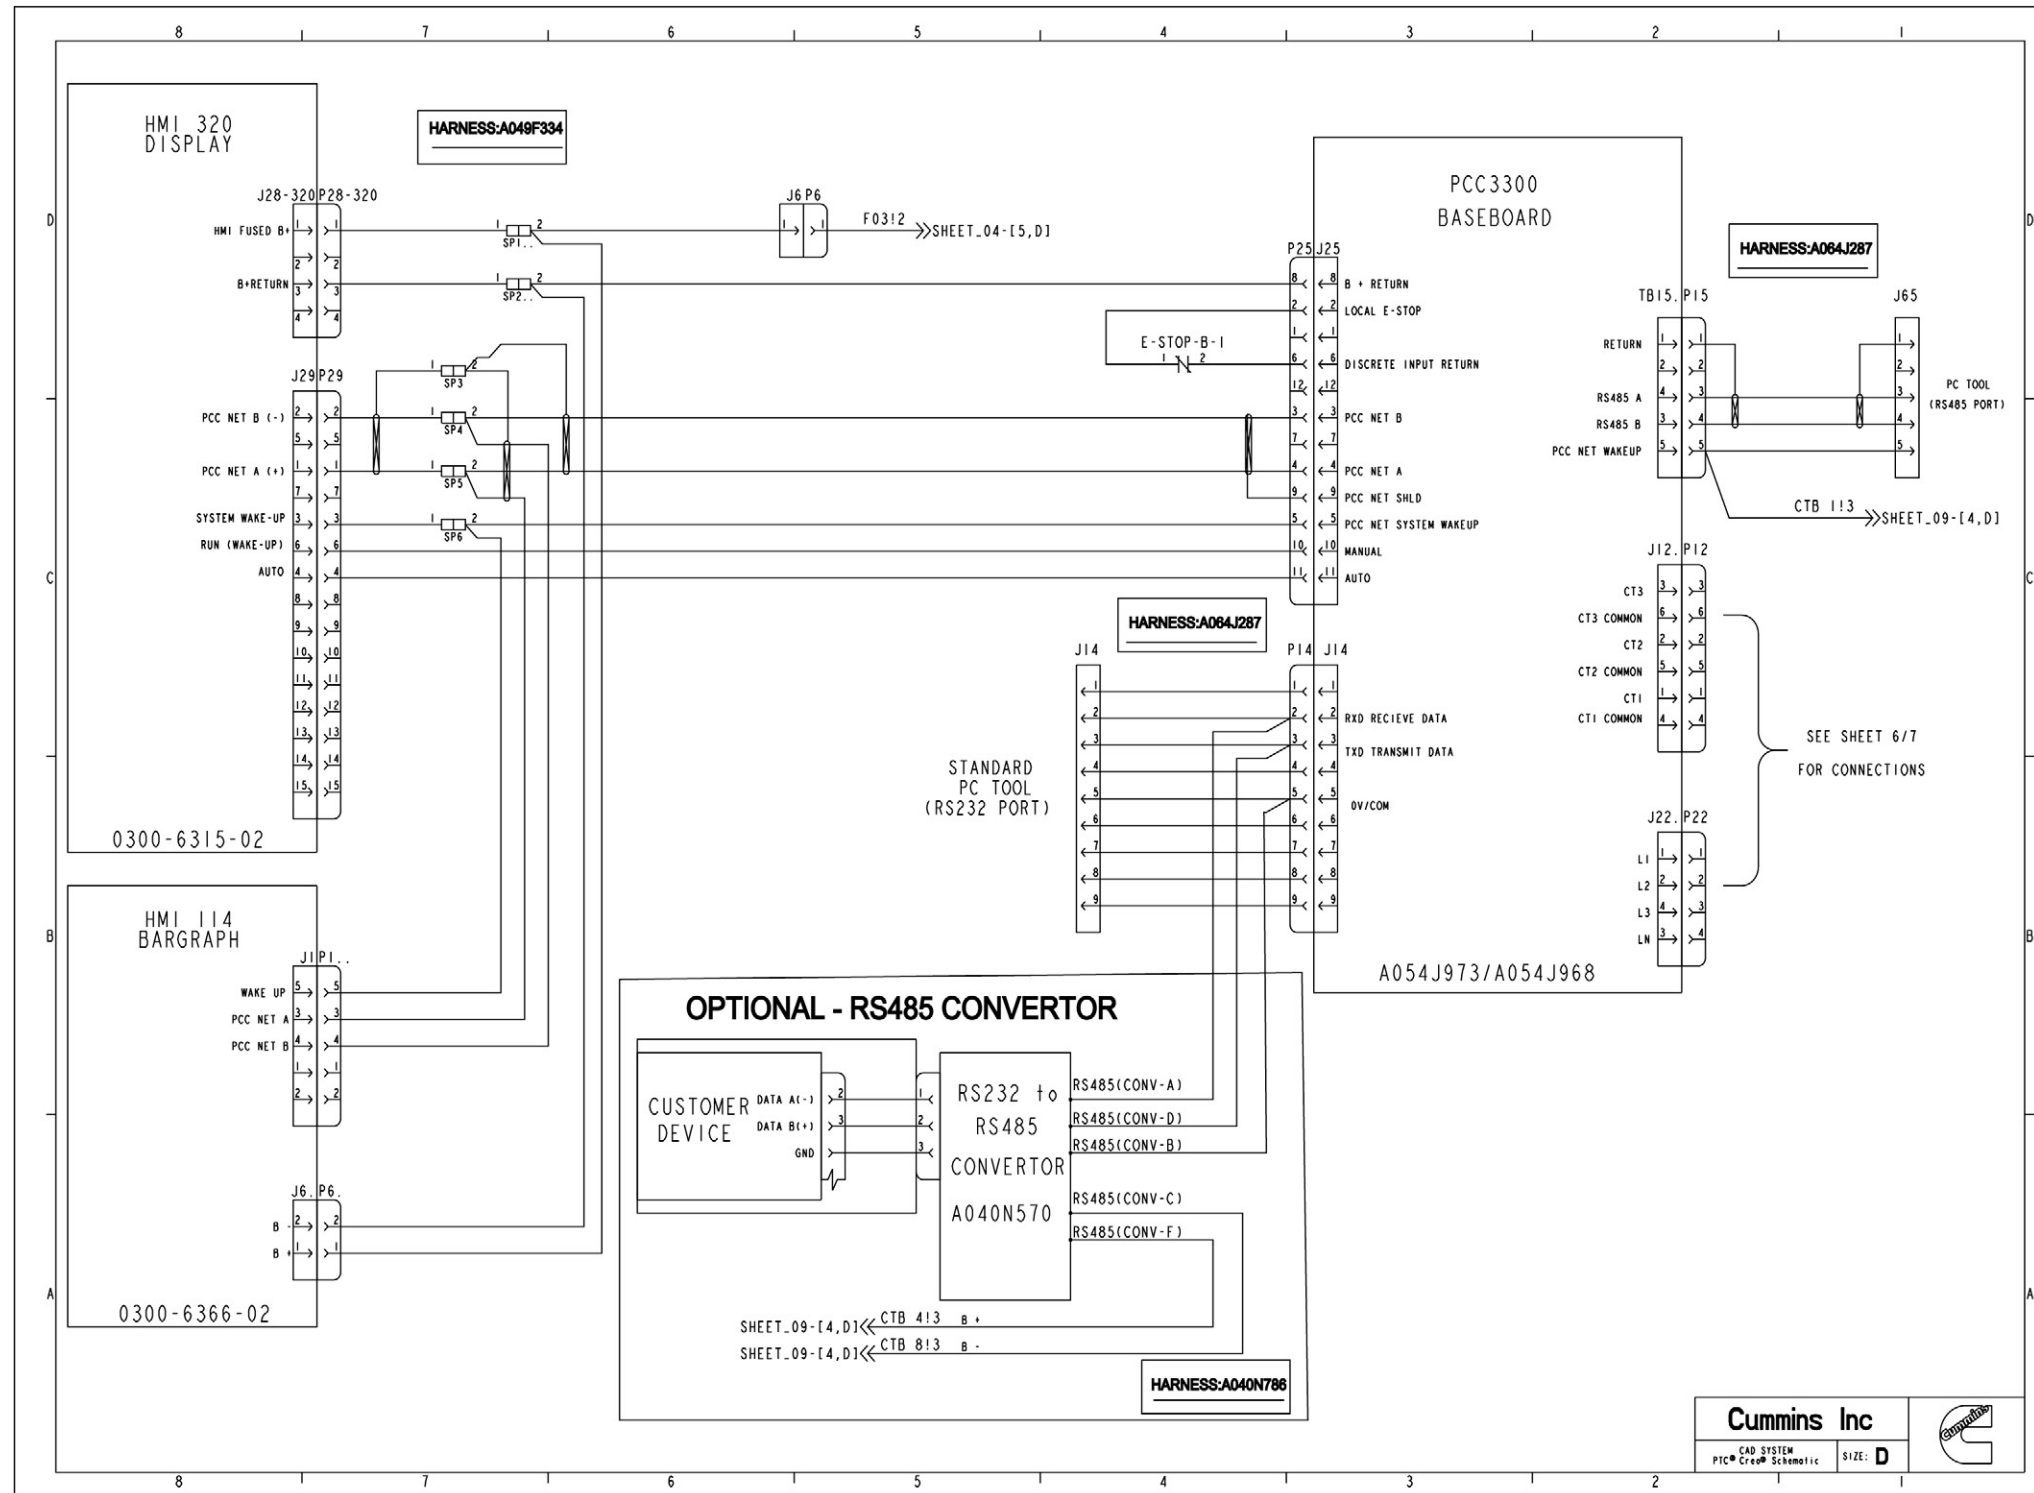

FIGURE 58. WIRING SCHEMATIC (SHEET 3)
- Figure 58. Wiring Schematic (Sheet 3) 113